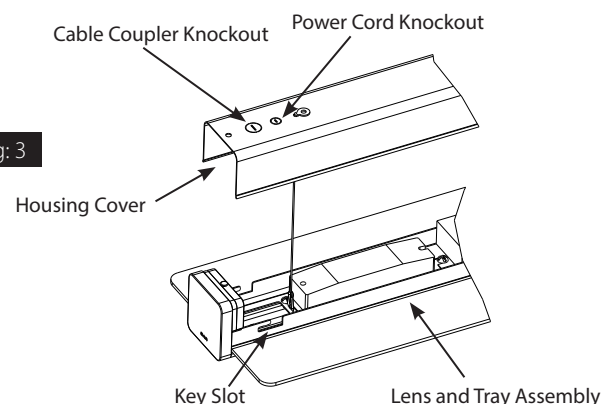
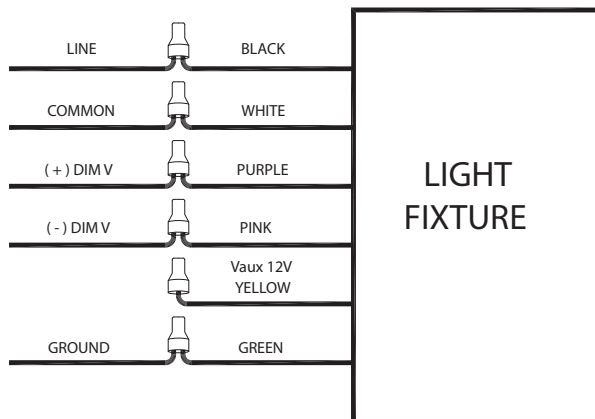

Fig: 3
Fig: 13
3. Pull the **End Caps** out of each end of the fixture as shown in Fig. 1. Separate the **Housing Cover** from the **Lens and Tray Assembly** by sliding the **Housing Cover** either right or left to unlock from **Key Slots** as shown in Fig. 3. Pre-installed **Tether Cables** (2) will prevent **Lens and Tray Assembly** from separating from **Housing Cover** (Fig. 1).
5. Align **Surface Mount Adapter Plate** to the **Housing Cover**. Using (4) **Screws** (*provided*) secure **Surface Mount Adapter Plate** and **Housing Cover** to the **Surface Mounting Plate**.
6. Follow appropriate wiring instructions per code (Fig. 13).
1. Remove **End Caps**. Slide **Lens Tray Assembly** from **Housing Cover** to release **Tray Assembly** by sliding the fixture to the right to unlock from **Key Slots** as shown in Fig. 3. Pre-installed **Tether Cables** (2) will prevent **Lens and Tray Assembly** from separating from **Housing Cover** as shown in Fig. 1.
9. Follow appropriate wiring instructions per NEC and local code (Fig. 13).
2. Connect wires per NEC and local code as shown in wiring diagram (Fig. 13). Push all wires back into the **Junction Box**. Be careful not to pinch wires. Mount the **Cross Bar** on Junction Box.
1. Remove **End Caps**. Slide **Lens Tray Assembly** from **Housing Cover** to release **Tray Assembly** from **Housing Cover** by sliding the fixture to the right to unlock from **Key Slots** as shown in Fig. 3. Pre-installed **Tether Cables** (2) will prevent **Lens and Tray Assembly** from separating from **Housing Cover** as shown in Fig. 1.
Universal voltage driver permits operation at 120V through 277V, 50 or 60 Hz. For 0-10V dimming, follow the wiring directions as shown in Fig. 13.